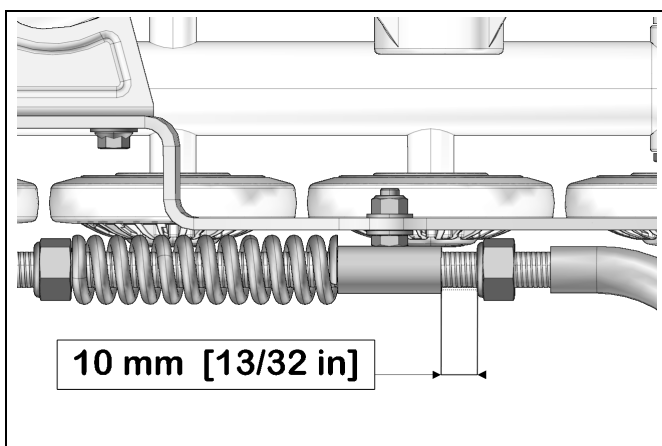

Figure 13
- **IMPORTANT:** Double-check 10 mm minimum distance between nut and stabilizing arm guide. Re-adjust as needed. See Figure 13.